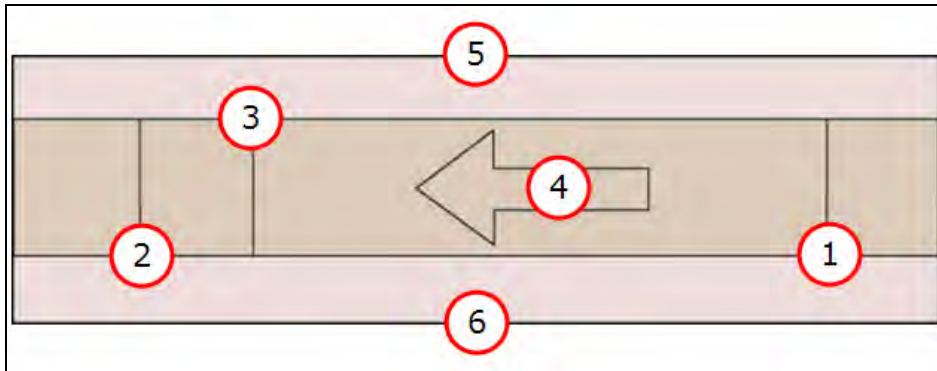

Figure 1-16 Robot-to-Belt Calibration Points
Robot-to-belt calibration will require three points to be defined on the surface of the belt, shown in order in Figure 1-16 below. Use the following procedure to execute a robot-to-belt calibration.
**NOTE:** The three points in this calibration also define other values, such as the upstream and downstream allocation limits, also shown in Figure 1-16 below. However, these do not directly affect the calibration of the belt and can later be changed to fit the needs of the application. For ACE Sight and V+ programs, the pick limits will be defined in a V+ program. For applications with a Process Manager, refer to Belt Calibrations on page 367 for more information.